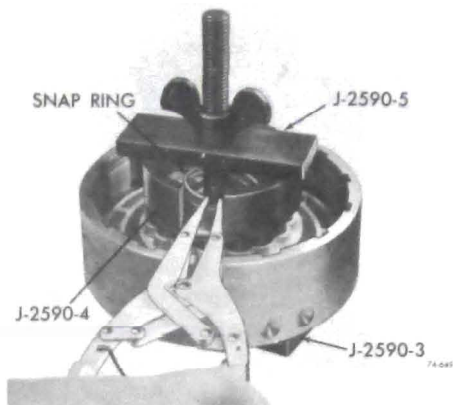

Figure 76-650
6. Using J-2590 clutch spring compressor, compress the spring retainer and remove the snap ring. See Figure 76-650.